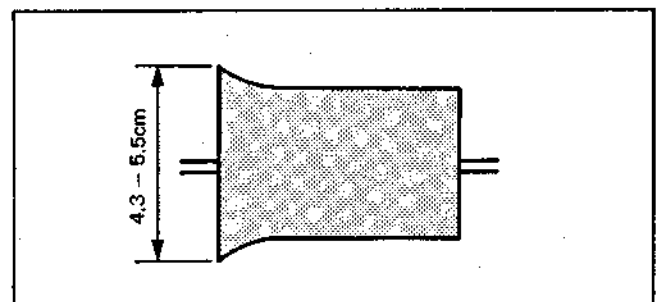

Fig. 2-10 No. 1 Guide Waveform
- 3) Turn No. 1 guide adjustment nut clockwise so that the RF output waveform entrance side is as shown in Fig. 2-10.